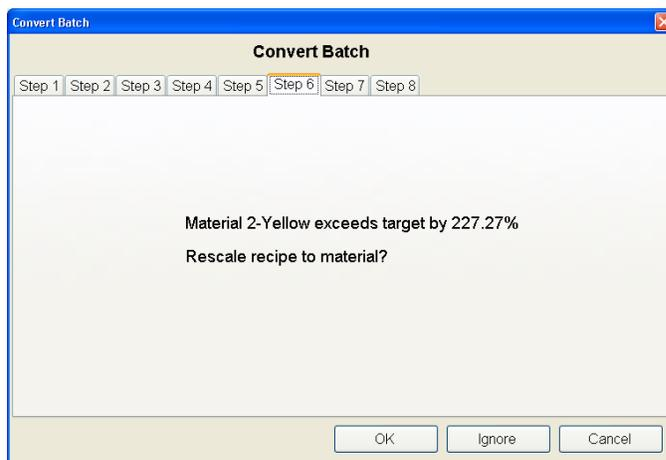

Figure 12-20: Conversion Calculation Screen
6. Figure 12-20 shows that the Convert feature has examined all the materials and determined that proportion of **Material 2 –Yellow** differs most between recipes. It must be rescaled by the amount shown – 227.27%. The same re-scale percentage will be applied to all the other materials in the batch. Click on **OK**.
8. When **OK** is clicked in Figure 12-20, the system automatically creates a copy of the recipe with all the changes applied by Convert Batch. You can identify this recipe in BatchTool because the system assigns an extra **0** (zero) at the beginning of the recipe name.